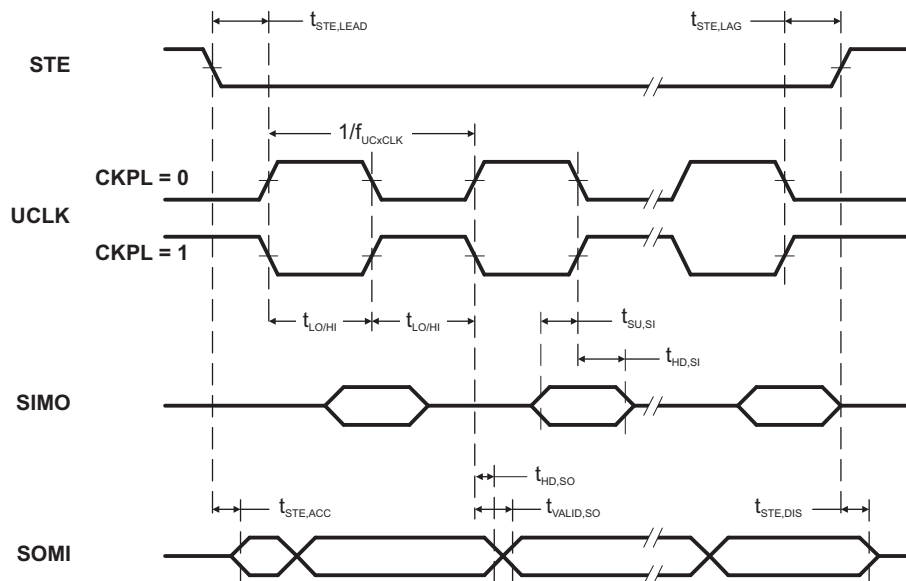
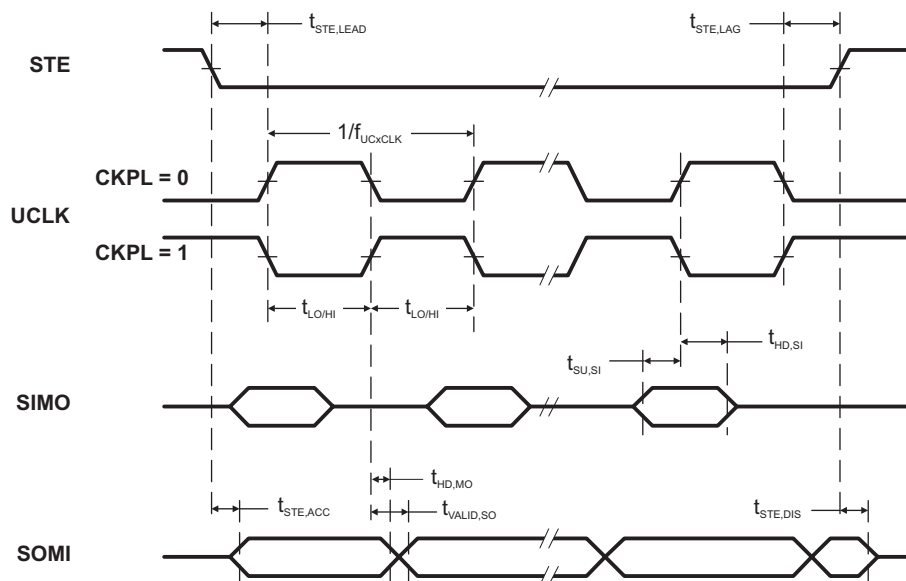

Figure 5. SPI Slave Mode, CKPH = 0
Figure 6. SPI Slave Mode, CKPH = 1
(see Note ⁽¹⁾, Figure 5 and Figure 6)
- (2) Specifies the time to drive the next valid data to the SOMI output after the output changing UCLK clock edge. Refer to the timing diagrams in Figure 5 and Figure 6.
- (3) Specifies how long data on the SOMI output is valid after the output changing UCLK clock edge. Refer to the timing diagrams in Figure 5 and Figure 6.